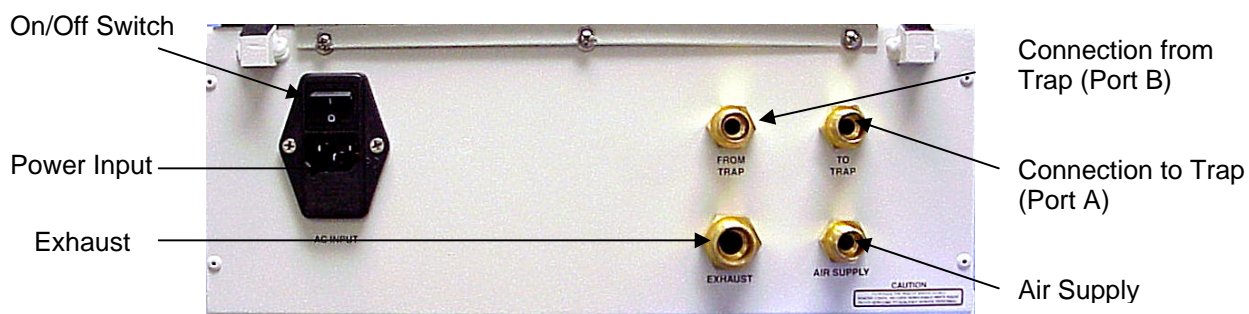

Figure 3-2: Speed-Vap™ III Connections
- Step 4)** Locate the bag with P/N 50-0489, containing the polyurethane exhaust tubing. Connect one end to the connector labeled “Exhaust” on the back of the Speed-Vap™ (refer to Figure 3-2). Place the other end of the tubing in a hood. Be certain the hexane vapors are properly vented, well away from any ignition source.
- Step 5)** Locate the bag with P/N 50-0487, containing the polyurethane air tubing. Attach the fitting to the connector labeled “Air Supply” on the back of the Speed-Vap™ (refer to Figure 3-2). Connect the other end of the tubing to the air compressor. The air compressor requirements are a flow rate of 2 CFM and a minimum pressure of 60 psi.
- Step 10)** Locate the bag with P/N 50-0488, containing (2) polyurethane vacuum lines. Attach one end of one line to the Speed-Vap™ connector labeled **To Trap** and the other end to the Solvent Trap™ connector for “Port A” (left right angle brass fitting). Attach one end of the second vacuum line to the Speed-Vap™ connector labeled **From Trap** and the other end to the Solvent Trap™ connector for “Port B” (right t-fitting). Refer to Figures 3-2 and 3-3.